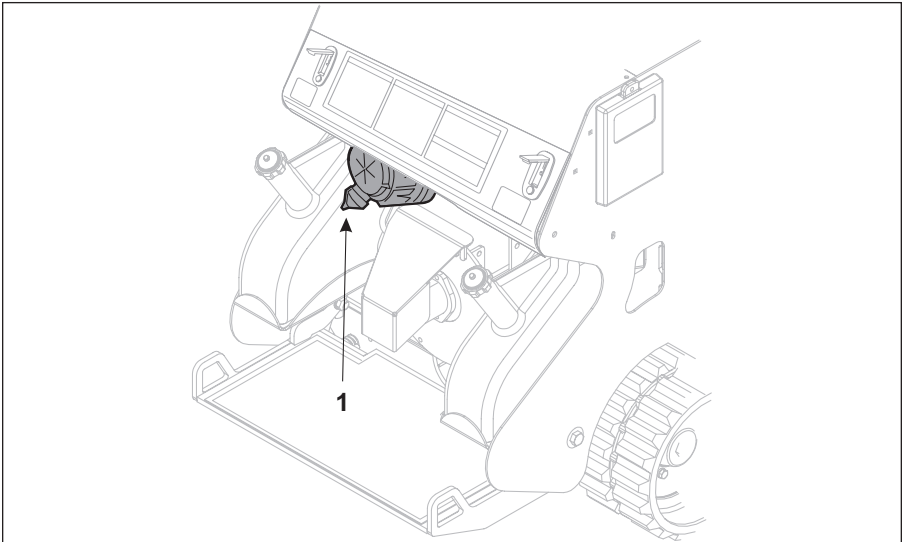

Figure 4-6 Air Filter Dirt Release
6. Release dirt from separator tube at the bottom of the air filter by squeezing the rubber dust ejector valve (Item 1, Figure 4-6) underneath the air filter.